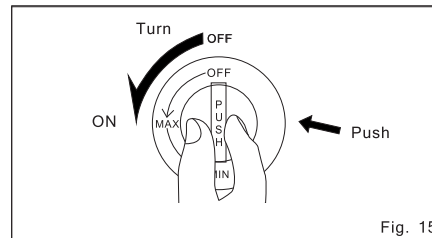
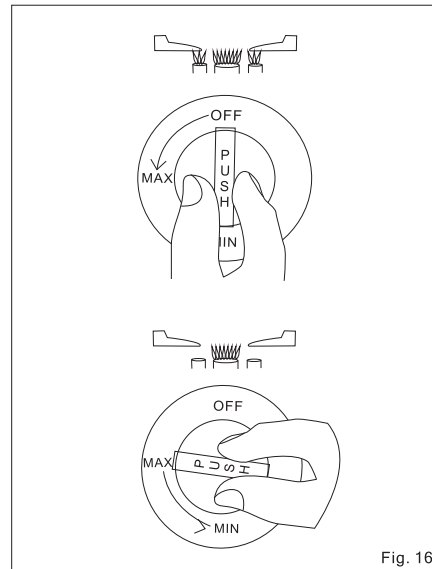

Fig. 15
Fig. 16
A. Open the main gas valve. Push the gas control knob in and turn it towards the MAX position (counter-clockwise) until you hear the ignition click. Make sure that the burner has been lit (Fig. 15). in this position, double burner will light up both the small and large burners. To use only the small burner, release the gas control knob and turn it further to the MIN position (Fig. 16).